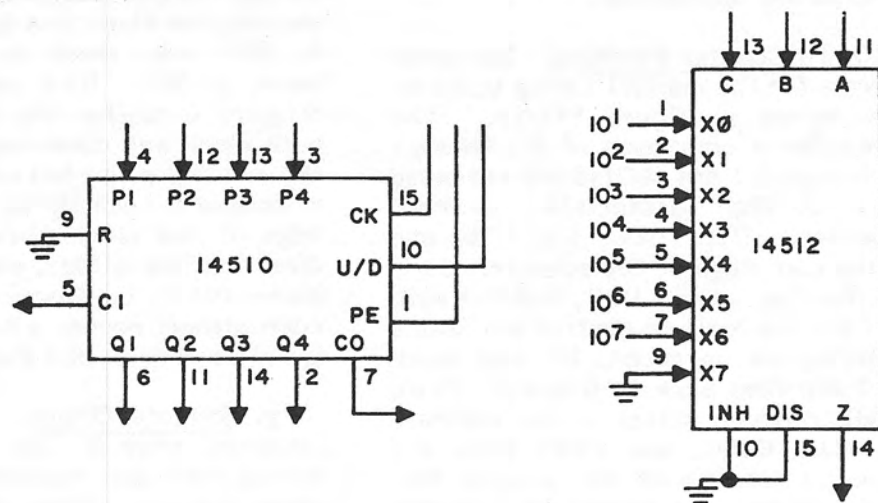

Figure 3-26. Up/Down Counter Integrated Circuit Data
c. Presettable Up/Down Counter. Integrated circuit 14510 is a presettable up/down decade counter and is shown in figure 3-26. Pin 15 is the clock input. The counter will increment for each rising edge of the clock when the up/down input (pin 10) is high; when pin 10 is low, the counter will decrement. If the parallel enable input
d. Eight-input Data Selector. Integrated circuit 14512 is an eight-input data selector and is shown in figure 3-26. Control inputs A, B, and C select which of the data inputs, X_0 to X_7 , is gated to output Z. The data input selected is determined by the binary equivalent of the control inputs. Refer to table 3-10. When activated, the disable line will force a low on the Z output and the inhibit input will cause it to go to the high impedance state. Inhibit and disable inputs are not used in this application.